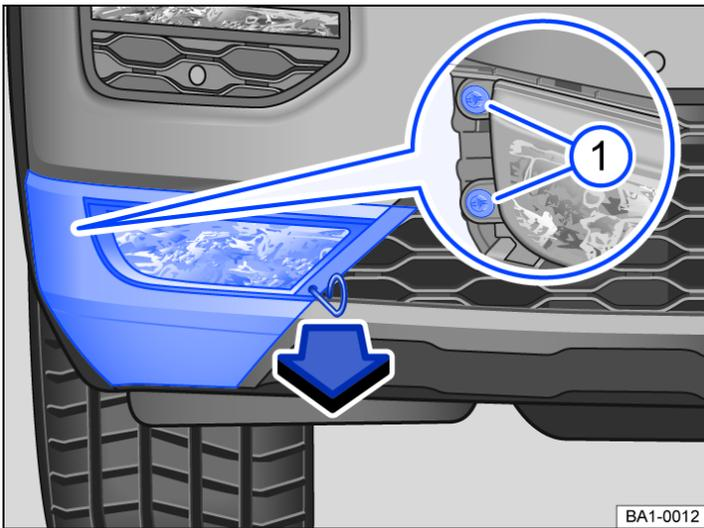

Fig. 1 In the front bumper on the right: removing the fog light.
2. Take the wire hook from the toolkit and insert it in the opening in the cover → Fig. 1. Pull the cover off forwards in the direction of the arrow (→ Vehicle toolkit).
3. Unscrew the securing screws → Fig. 1 ¹ with the screwdriver from the vehicle toolkit (→ Vehicle toolkit).